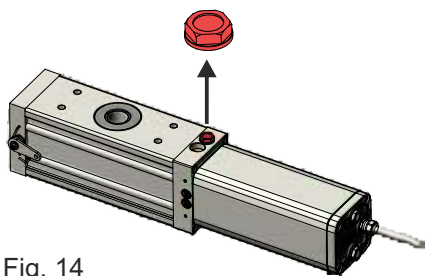
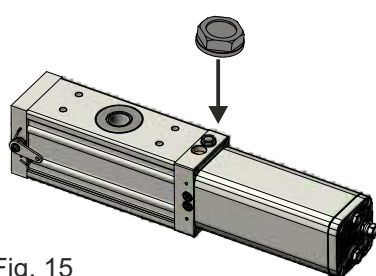

Fig. 14
Fig. 15
- RIMUOVERE **IL TAPPO DI TRASPORTO ROSSO POSIZIONATO IN ALTO** (FIG. 14) E SOSTITUIRLO CON IL TAPPO DI SFIATO NERO IN DOTAZIONE (FIG. 15)
- RETIRAR **LA TAPA DE TRANSPORTE ROJA UBICADA ARRIBA** (FIG. 14) Y REEMPLAZARLA CON LA TAPA DE VENTILACIÓN NEGRA SUMINISTRADA (FIG. 15)